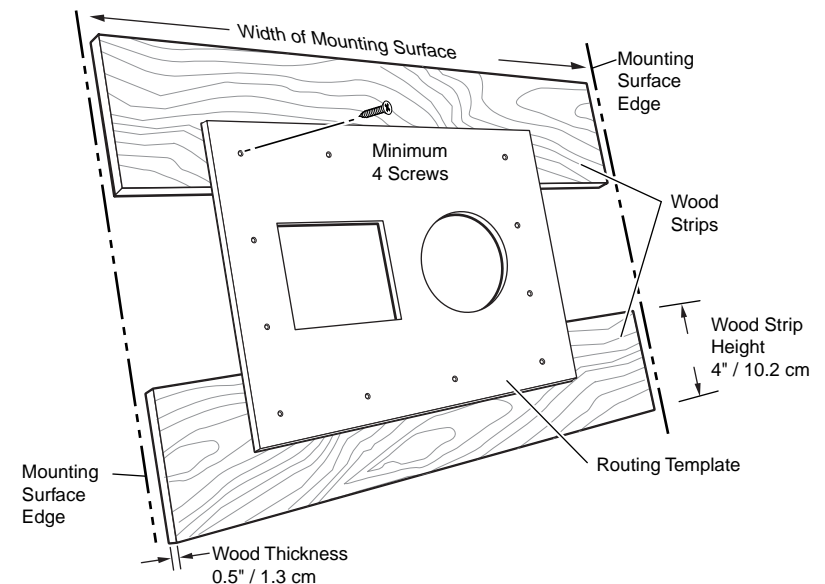

Figure 2-1 — Prepared mounting template assembly
1. Cut 1/2" x 4" strips of soft, finished lumber long enough to span the distance between the desired installation location on the mounting surface and the edges of the mounting surface (figure 2-1).